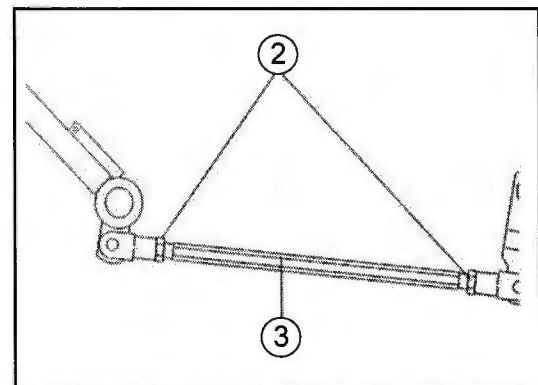

Fig. 27-4 - Brake Pedal Adjustment Rod
- Release the locking nut (2) and turn the rod (3) counter-clockwise.
- Check that distance (B) is correct before tightening the lock nuts. (See Fig. 27-4).